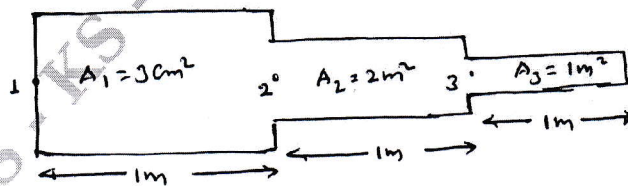

Fig.Q.8
- 8 For the smooth pipe of variable C/S shown in Fig.Q.8. Determine the potential at junctions, the velocities in each section pipe and volumetric flow rate. The potential at left end $P_1 = 10\text{m}^2/\text{sec}$ and that at right end $P_4 = 1\text{m}^2/\text{sec}$ for the fluid flow through smooth pipe $K_x = 1$. (20 Marks)